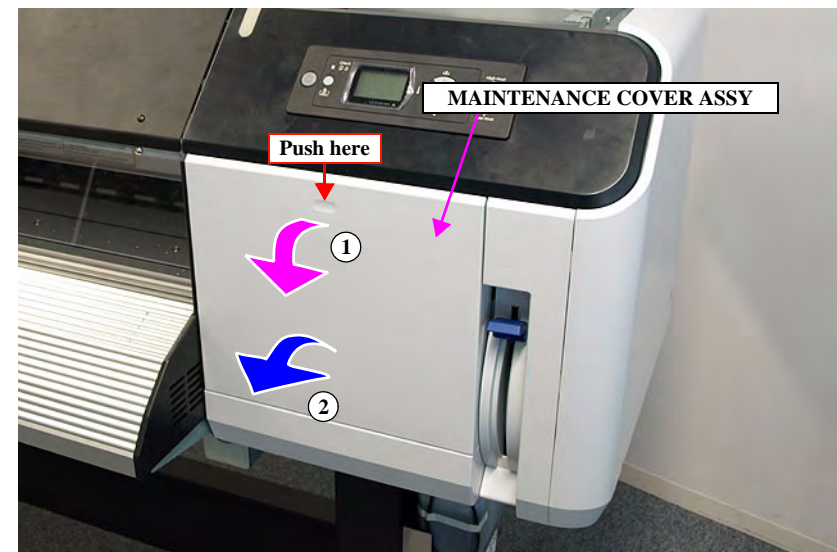

Figure 4-26. Removing the MAINTENANCE COVER ASSY
2. Push and open the MAINTENANCE COVER ASSY (right only). See Figure 4-26.
2. Push and open the MAINTENANCE COVER ASSY (left only). See Figure 4-26.